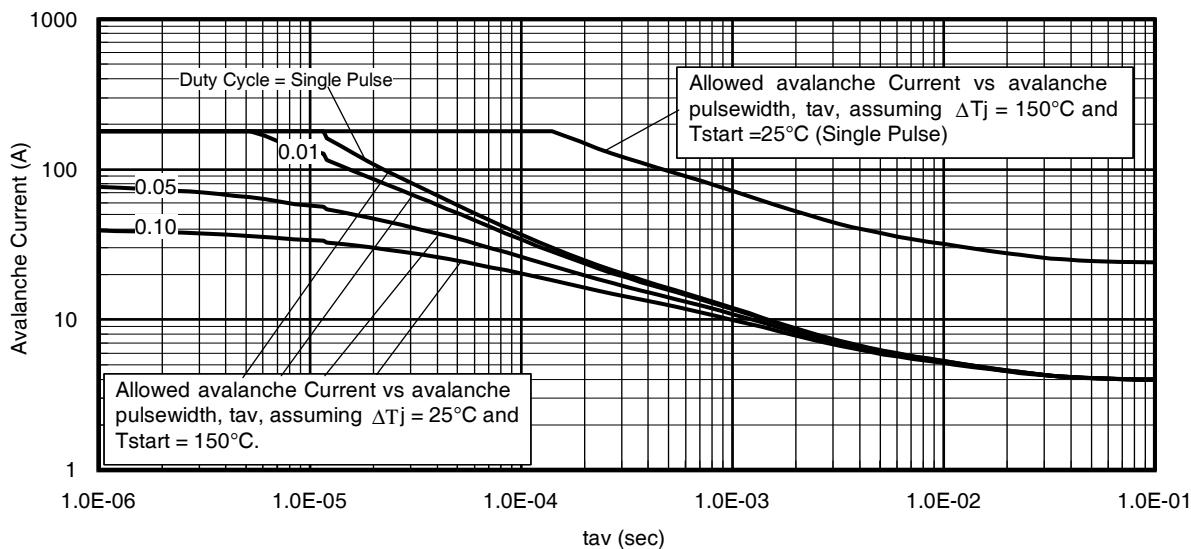

Fig 14. Typical Avalanche Current vs.Pulsewidth
Notes on Repetitive Avalanche Curves , Figures 14, 15:
7.  $\Delta T$  = Allowable rise in junction temperature, not to exceed  $T_{jmax}$  (assumed as 25°C in Figure 14, 15).